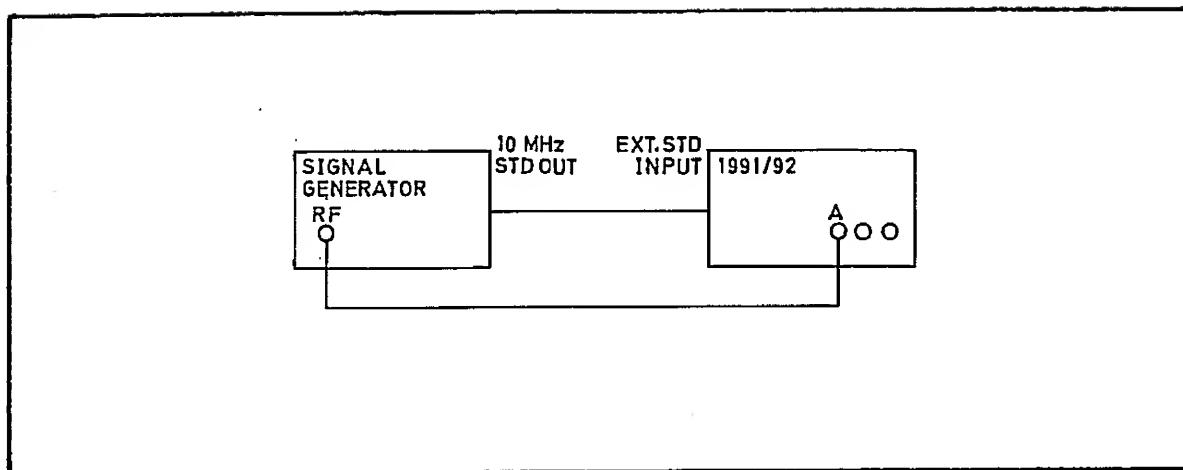

Fig 7.15 Connections for Channel A Sensitivity PVP
- (1) Switch on the 1991/92. Select $50\ \Omega$ on channel A.
- (2) Connect the test equipment as shown in Fig 7.15. Check that the EXT STD indicator lights.
- (3) Set the signal generator output to the frequencies shown in Table 7.4 in turn. Set the 1991/92 resolution to the corresponding value.
- (4) At each frequency, determine the minimum input level to the 1991/92 which gives stable counting. Verify that this is not more than the level shown in the table.
- (5) Disconnect the test equipment.